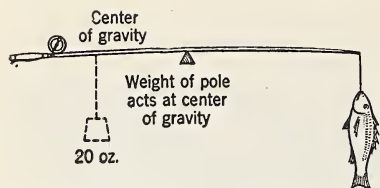

FIG. 189. Weight of pole concentrated at C. of G. counterbalances the fish.
10. A man has a fish pole 10 ft. long which weighs 20 oz. He finds by balancing it on the edge of a board that its center of gravity is 30 in. from the larger end. He catches a fish and then finds that the pole with the fish attached as in Fig. 189 now balances in the middle. Find the weight of the fish.